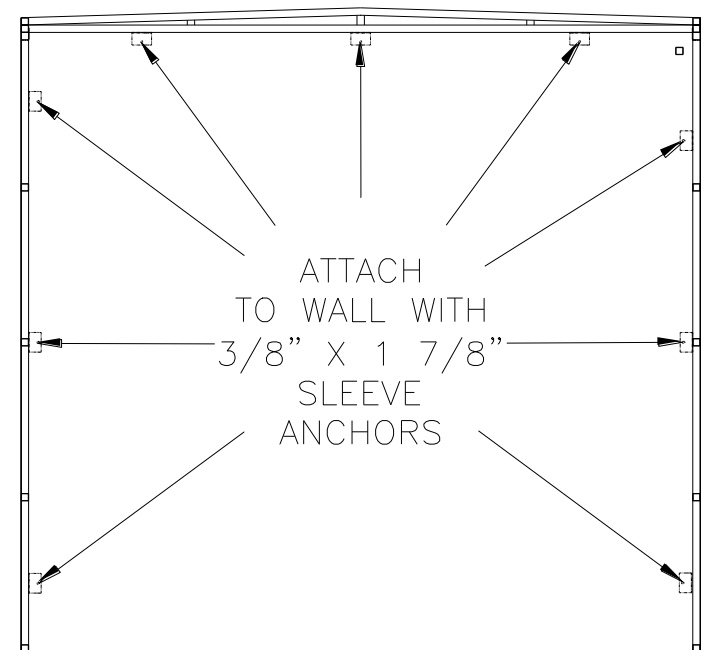

FIG. 9B
- **Drill** holes through remaining Mounting Brackets (Figure 9b).